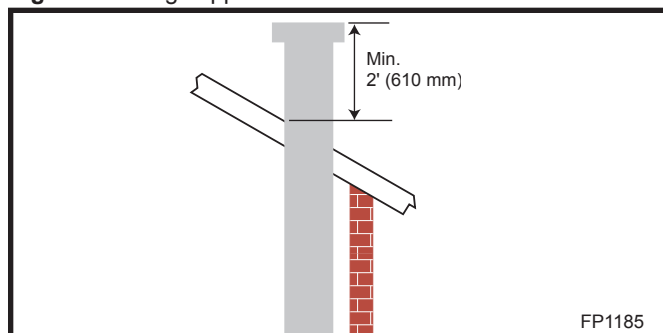

Fig. 29 Minimum termination to roof clearance.
- The minimum height of the vent above the highest point of penetration through the roof is 2' (610 mm). (Fig. 29)
10. Add additional vent lengths for proper height. (Fig. 29)